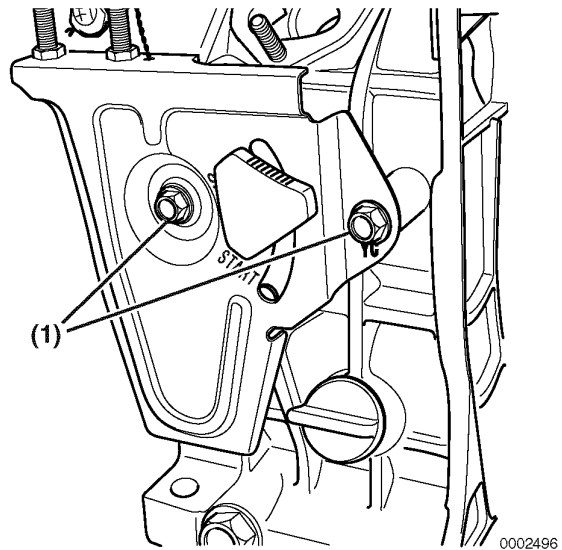

Figure 8-78
1. Remove the bolts (**Figure 8-78, (1)**) that retain the speed control assembly.